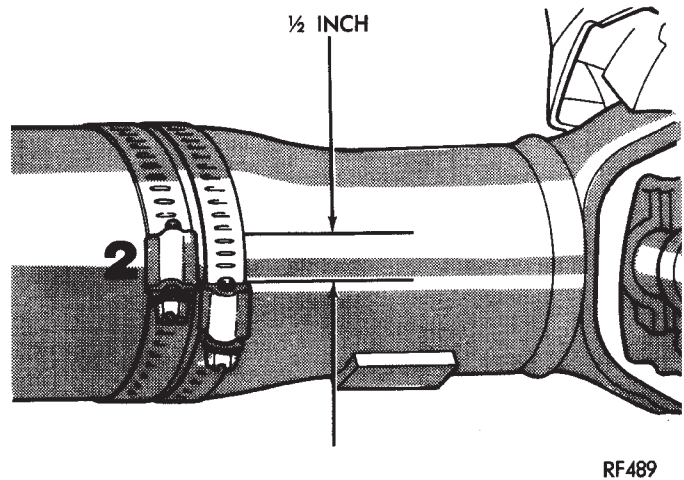

Fig. 6 Clamp Screws Separated
(13) If the additional clamp causes an additional vibration, separate the clamps (1/4 inch above and below the mark). Repeat the vibration test (Fig. 6).